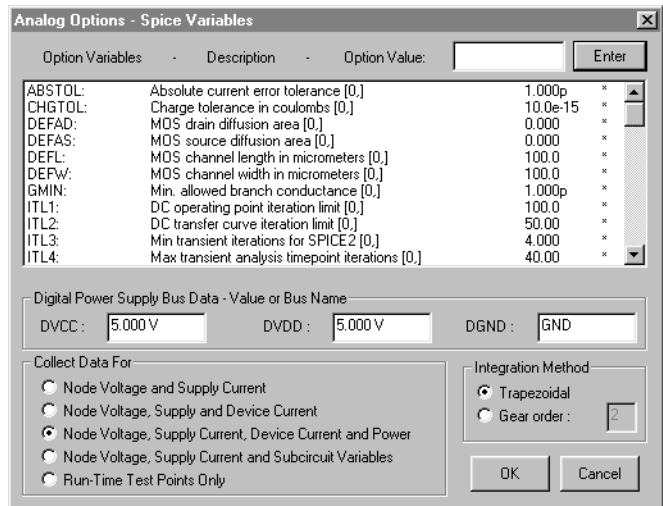

Figure 16.1. This dialog box lists the Spice option variables, which you can change. An asterisk (*) in the dialog box denotes default values for each option.
- 1 Choose **Simulation > Analyses Setup > Analog Options** to display the Analog Options - Spice Variables dialog box pictured in Figure 16.1.